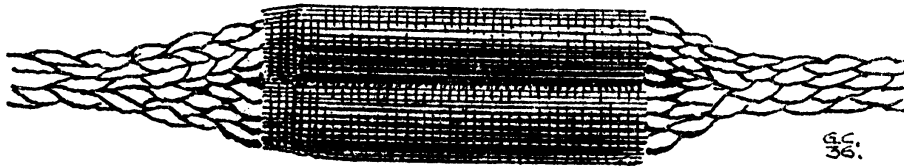
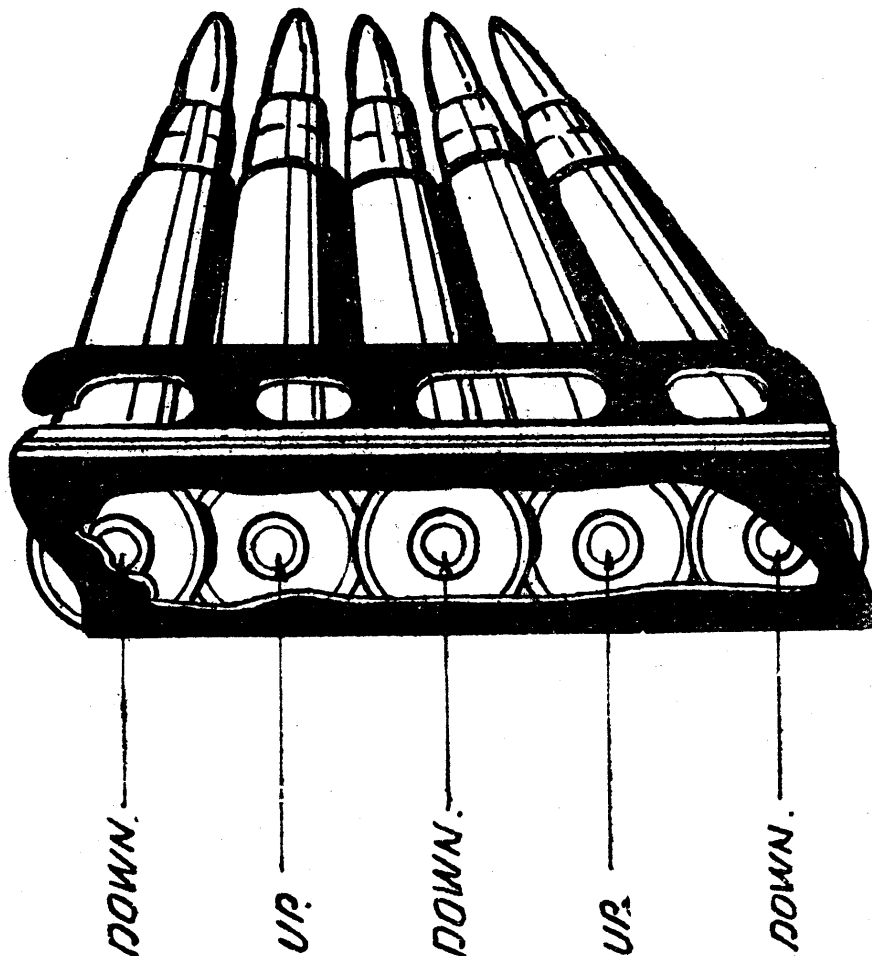

FIG. 2.
Fig. 5
- v. Fitting gauze:- In war-time the gauze will be kept fitted to the pull-through. To fit it, fold it as in Fig. 2, the longer sides taking the shape of an "S." Open the loop of the pull-through nearest the weight and put one side of it in each loop of the "S." Coil each half of the gauze tightly round the cord until the two rolls thus formed meet. Remove loose strands. To make the gauze fit the bore tightly, pack it with a small piece of flannelette if necessary. The gauze will always be oiled before use.
Stores:- Figs. 5, 4a, 3 at 100, 200, 300 yards respectively, and Figs. 2 at 400 and 500 yards.
Elbow and head rested, eye over heel of butt. Lay an aim at a Fig. 5 target, distant 100 yards. Squad view. Show how to arrange kit required.
Explain how to fill chargers (see Fig. 5).
Aiming disc:- Any short strip of tin or cardboard, about an inch wide and a few inches long. Paint one side grey with a brown figure 5 on it. Make a small hole in the centre of the figure 5.